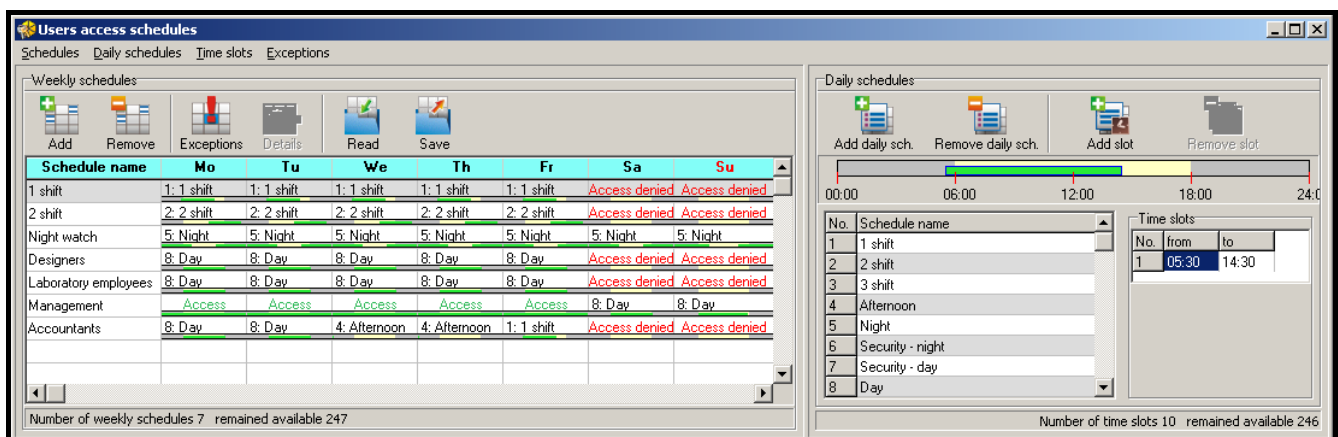
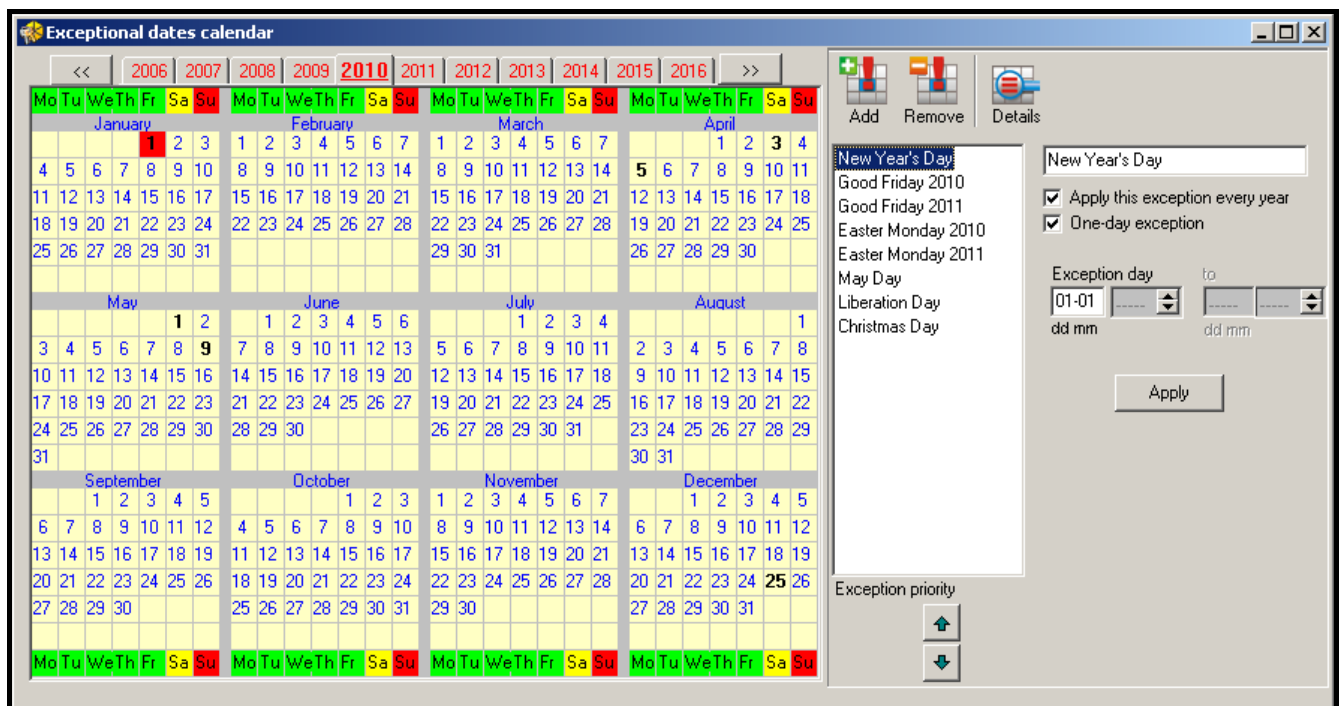

Fig. 31. Window with access schedules.
Fig. 32. Window with exceptional dates calendar.
1. Click with your mouse on the button designated SCHEDULES, available on the program menu bar (see Fig. 22). The USERS ACCESS SCHEDULES window will open (see Fig. 31).
1. Click with your mouse on the button designated EXCEPTIONS, available in the USERS ACCESS SCHEDULES window (see Fig. 31). The EXCEPTIONAL DATES CALENDAR window will open (see Fig. 32).